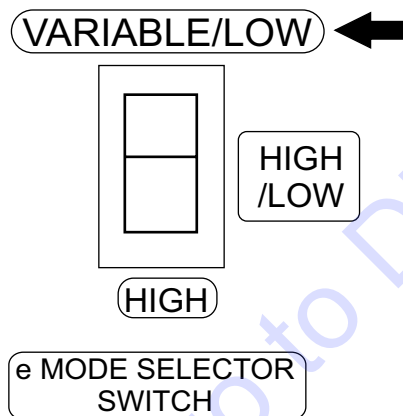

Figure 49. E-Mode Selector Switch (Variable/Low Position)
2. Place the e-Mode selector switch (Figure 49) in the variable/low position.